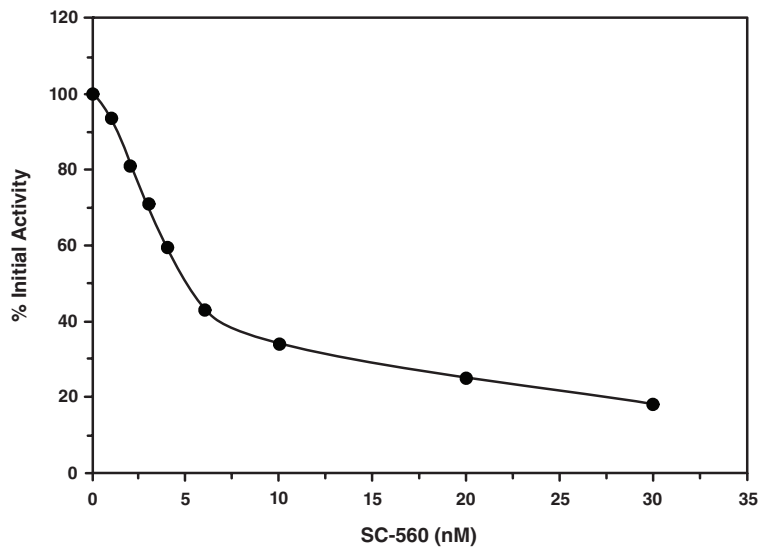

Figure 3. Inhibition of ovine COX-1 by SC-560
4. Graph either the Percent Inhibition or Percent Initial Activity as a function of the inhibitor concentration to determine the  $\text{IC}_{50}$  value (concentration at which there was 50% inhibition). Examples of COX-1 and COX-2 inhibition by SC-560 and DuP-697, respectively are shown in Figures 3 and 4 (see pages 14 and 15, respectively).